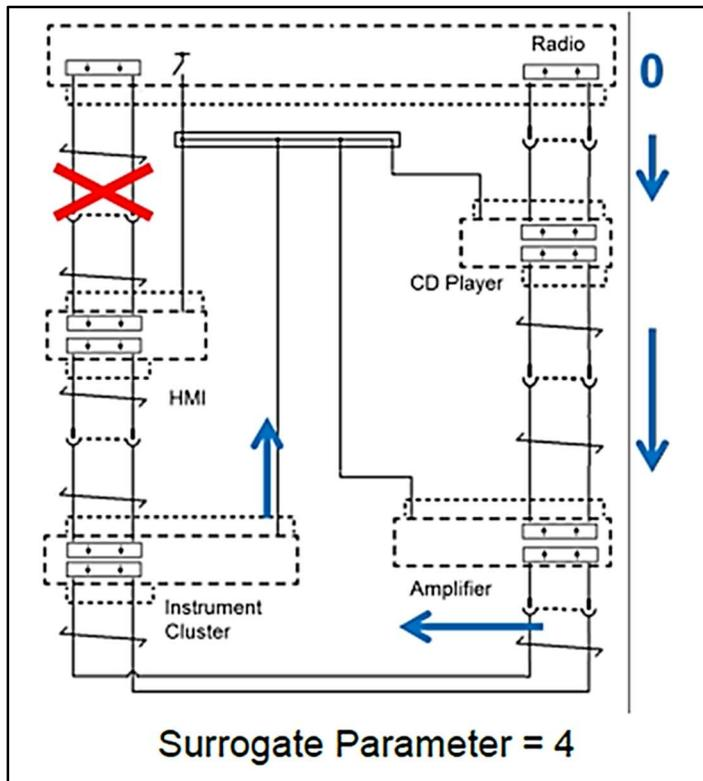

Figure 3-29, Ring Break Localization
- Figure 3-29 shows an example where the HMI control module will be the surrogate MOST® master